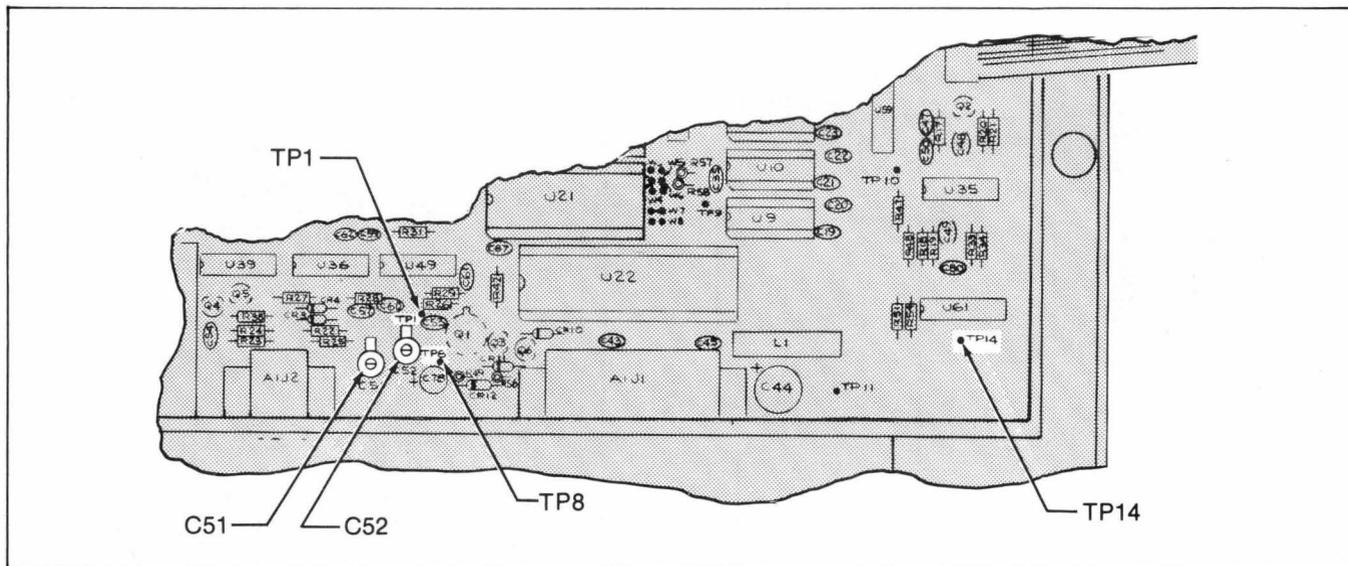

Figure 4-6. Probe Component Test Points and Adjustments
2. Apply power to the troubleshooter and connect an oscilloscope across TP8 (ground) and TP14 located on the Main Assembly. Refer to Figure 4-6 for test point locations.
6. Adjust C51 and C52 (shown in Figure 4-6) to obtain best wave, i.e., square corners with minimum over or undershoot.